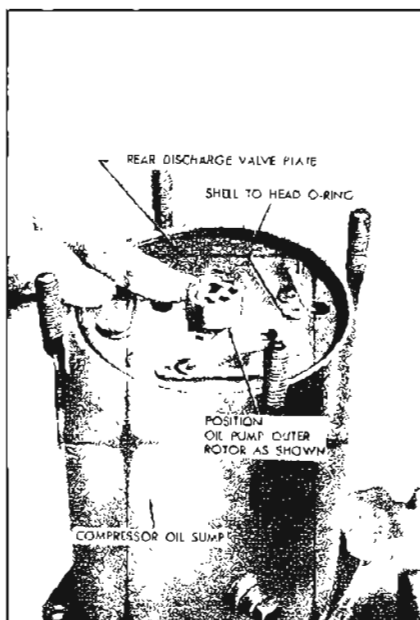

Figure 11-103—Positioning Oil Pump Outer Rotor
53. Reassemble inner and outer oil pump rotors so that the sides previously identified are in their original location, and then position oil pump outer rotor as shown in Figure 11-103.
viscosity oil new shell to head "O" ring and install in shell (see Figure 11-103).